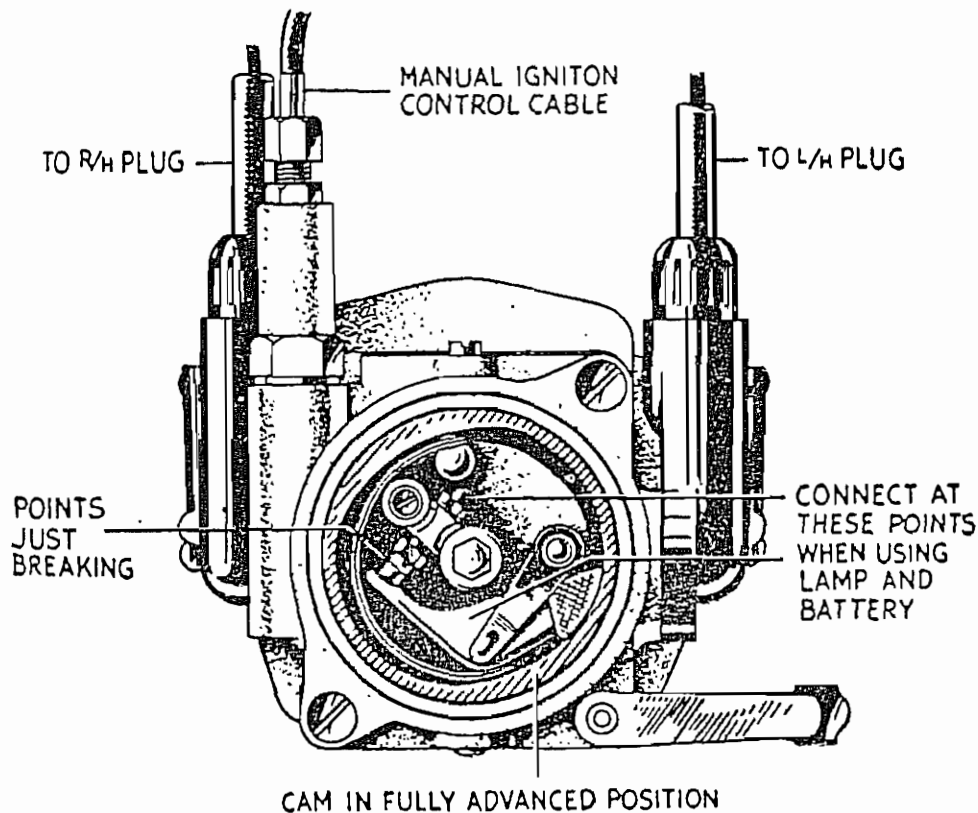

Fig. 22. MAGNETO IN TIMING POSITION
**Positioning the Contact Breaker.** Remove the contact breaker cover and advance the manual control lever on the handlebar (close anti-clockwise to advance). Rotate the contact breaker until the points are in the upper position and just breaking (See Fig. 22). In order to ascertain accurately the exact point of opening, slip a .0015" (0.04 mm.) feeler gauge or a piece of tissue paper between the points. Rotate the contact breaker and the gauge will be released immediately the points start to open.
**Final Operation.** Re-check the timing and if correct, replace the timing cover, contact breaker cover, sparking plugs, H.T. lead (See Fig. 22) and the four rocker inspection caps.